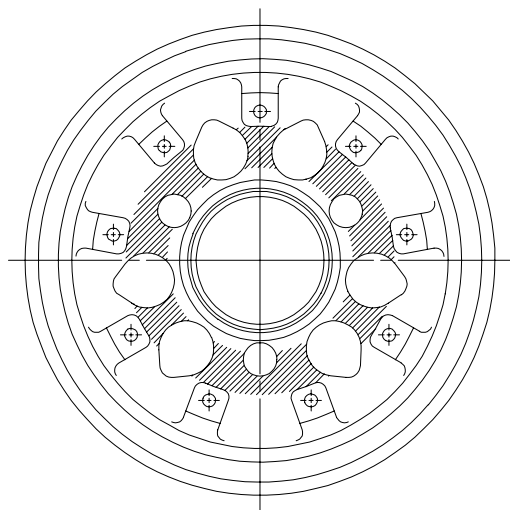

Figure 1
B. Wipe down and clean the hub area and web area of both inner and outer wheel halves of each wheel with MEK or appropriate cleaning solution (Ref. Figure 1). Rotate wheel as needed to gain access to the subject areas of the inner wheel half.
- C. Carefully examine the web areas (spokes) between the lightening holes of both the inner and outer wheel halves on each wheel. Refer to Figure 1 for area locations.
- C. Penetrant inspect each wheel half, noting in particular the web areas (spokes) between the lightening holes, as shown in Figure 1.